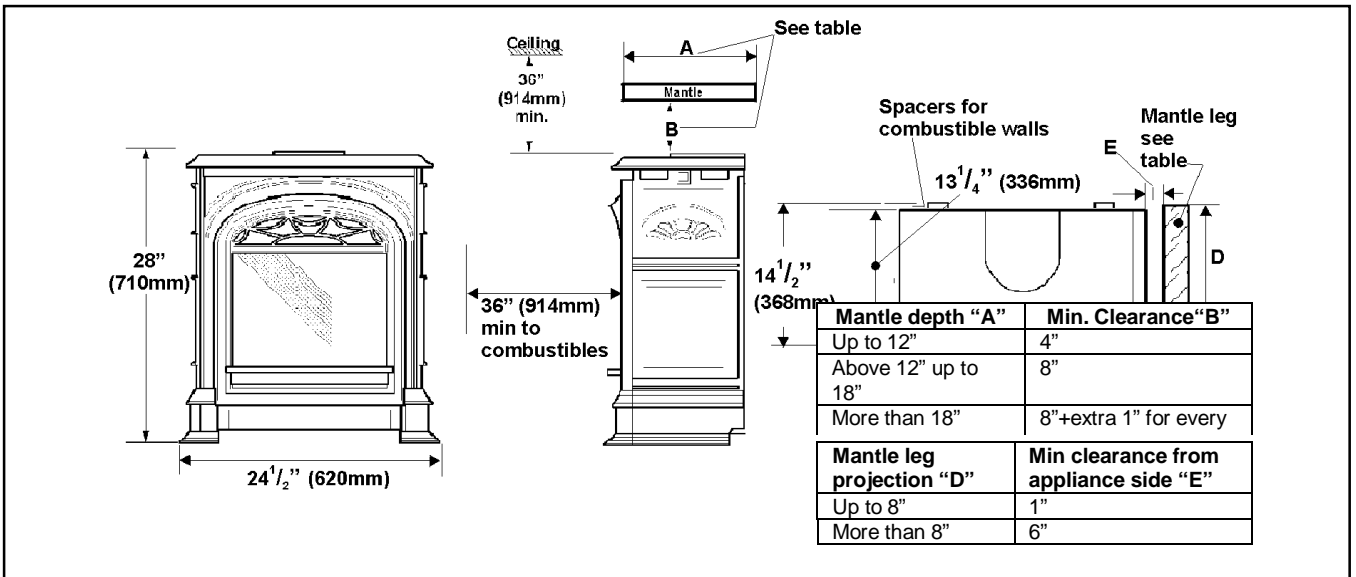

Figure 1 Appliance dimensions & clearances
2. The distances from the stove to any construction made from wood or other combustible materials must be at least those shown in figure 1. Please bear this in mind if altering the room.